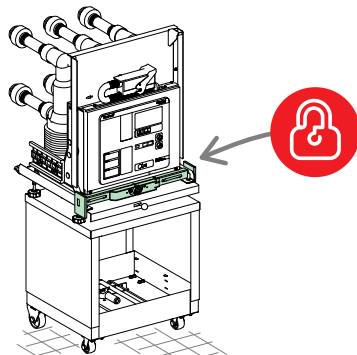

Figure 71
- The VCB is OFF and discharged position. Refer to Figure 71 in Insertion of the EvoPacT HVX VCB into the Cubicle, page 80.